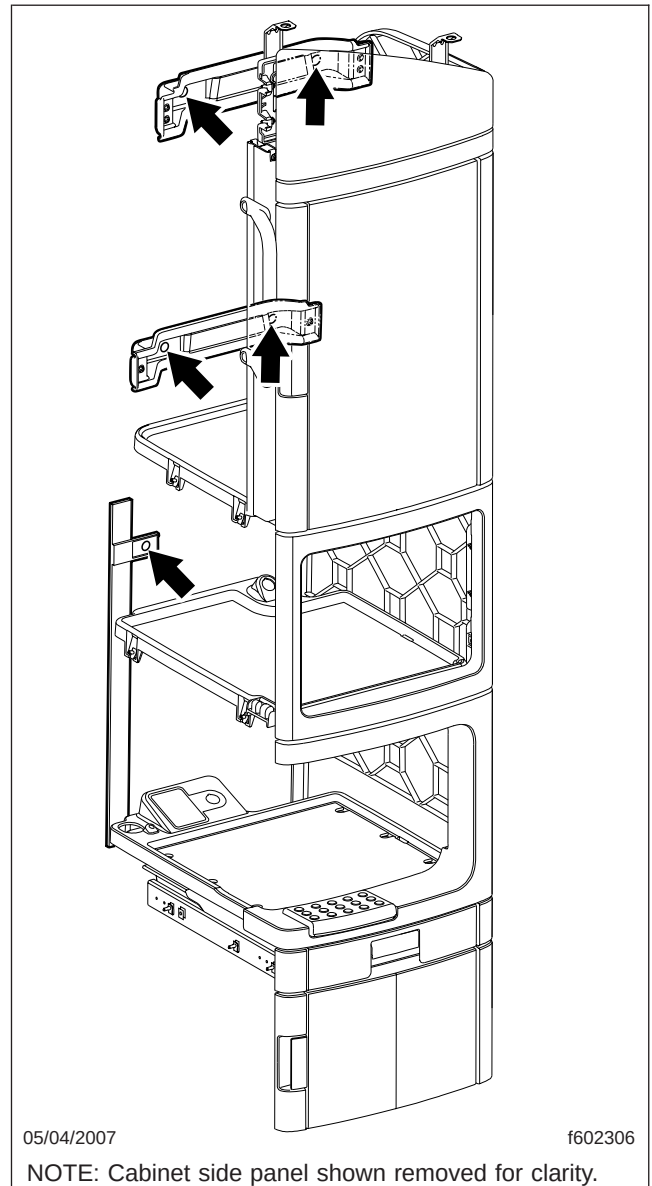

Fig. 6, Cabinet-to-Sleeper Wall Fasteners Inside Cabinet
16. Inside the cabinet, remove the screws and washers that attach the cabinet to the sleeper wall; see Fig. 6.
3. Inside the cabinet, install the screws and washers that attach the cabinet to the sleeper wall; see Fig. 6.